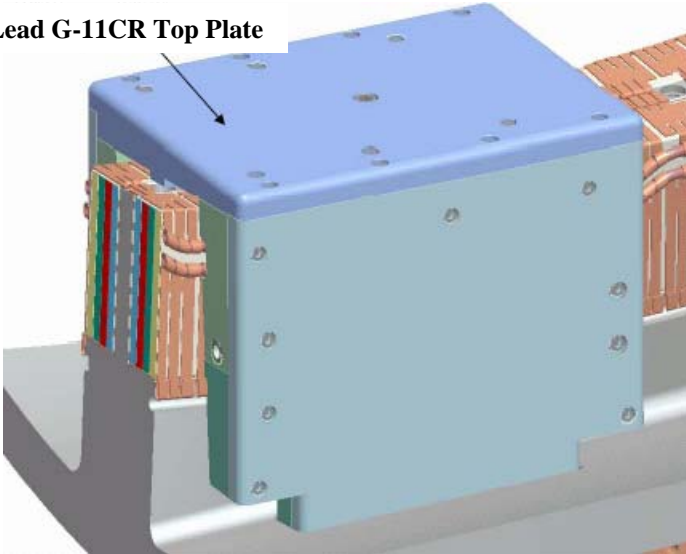
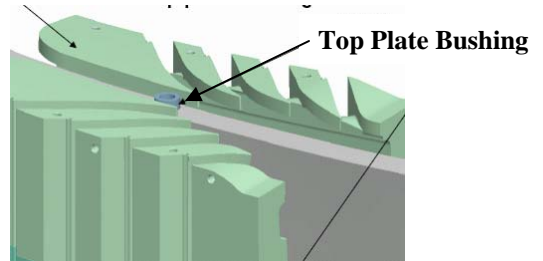

Figure 49- Lead Area Top Plate
Figure 48-Top Plate Bushing
6.46.1 Install the top plate bushing and mount the G-11CR top plate to the side plates. Secure top plate to side plates and center tee with the appropriate hardware. [Figure 48-Top Plate Bushing & Figure 49- Lead Area Top Plate]